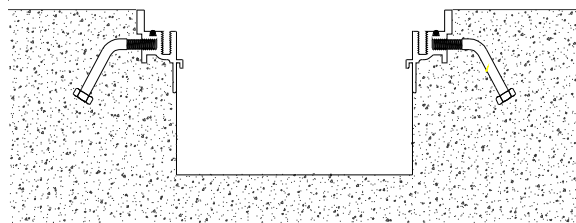

Figure 7
STEP 11. After the concrete has cured, remove the temporary wooden cover from the frame and remove the trench forms (see Figure 7).